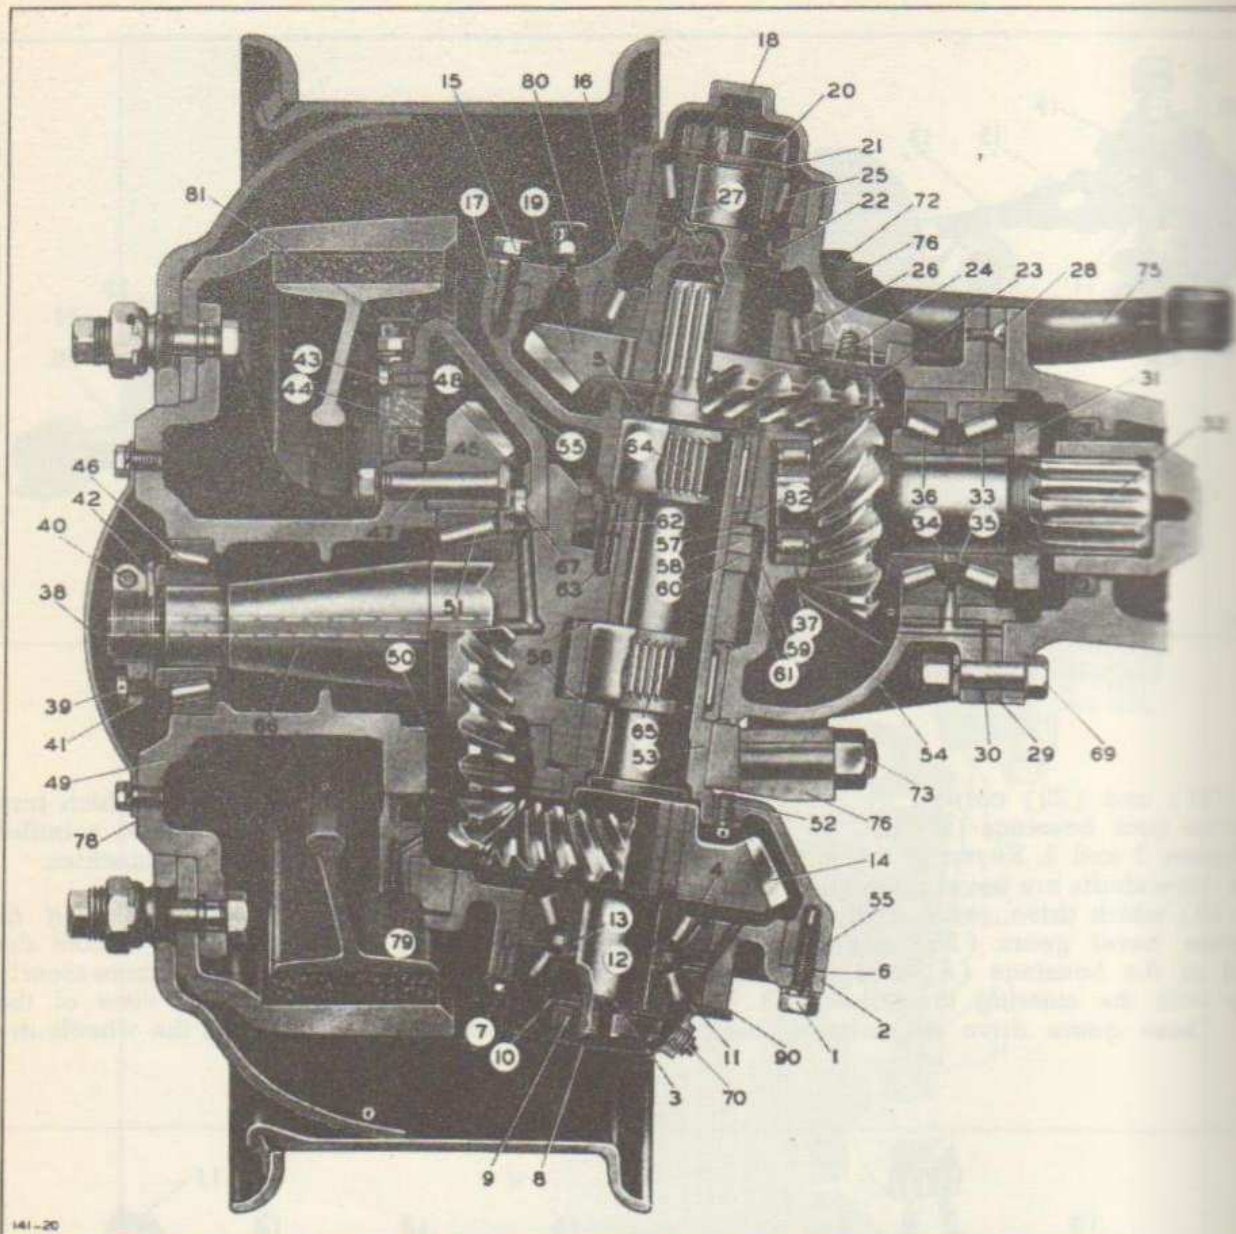

Fig. 8—Vertical Section of Wheel Drive Unit
As shown by Figure 8, a sectional view of the left hand wheel drive unit, the second reduction pinion gear (32) is straddle-mounted, having two tapered-roller bearings (33) and (36) on its integral shaft and a straight roller bearing (37) on its inboard end. The second-reduction bevel gear (19) is splined to the upper end of the drive shaft (3). This gear has an integrally-forged stub shaft supported by two tapered-roller bearings (25) and (26), enclosed in a retainer (16) at the top of the housing (54).